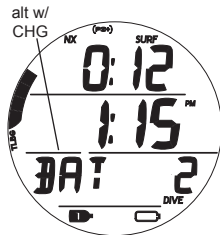

Fig. 3 - SURF MAIN
- Upon entry into Surface Mode, the Battery icon (shell only with no inner bar) flashes and the graphics CHG and BATT alternate for 5 seconds (Fig. 3) then operation reverts to Watch Time.